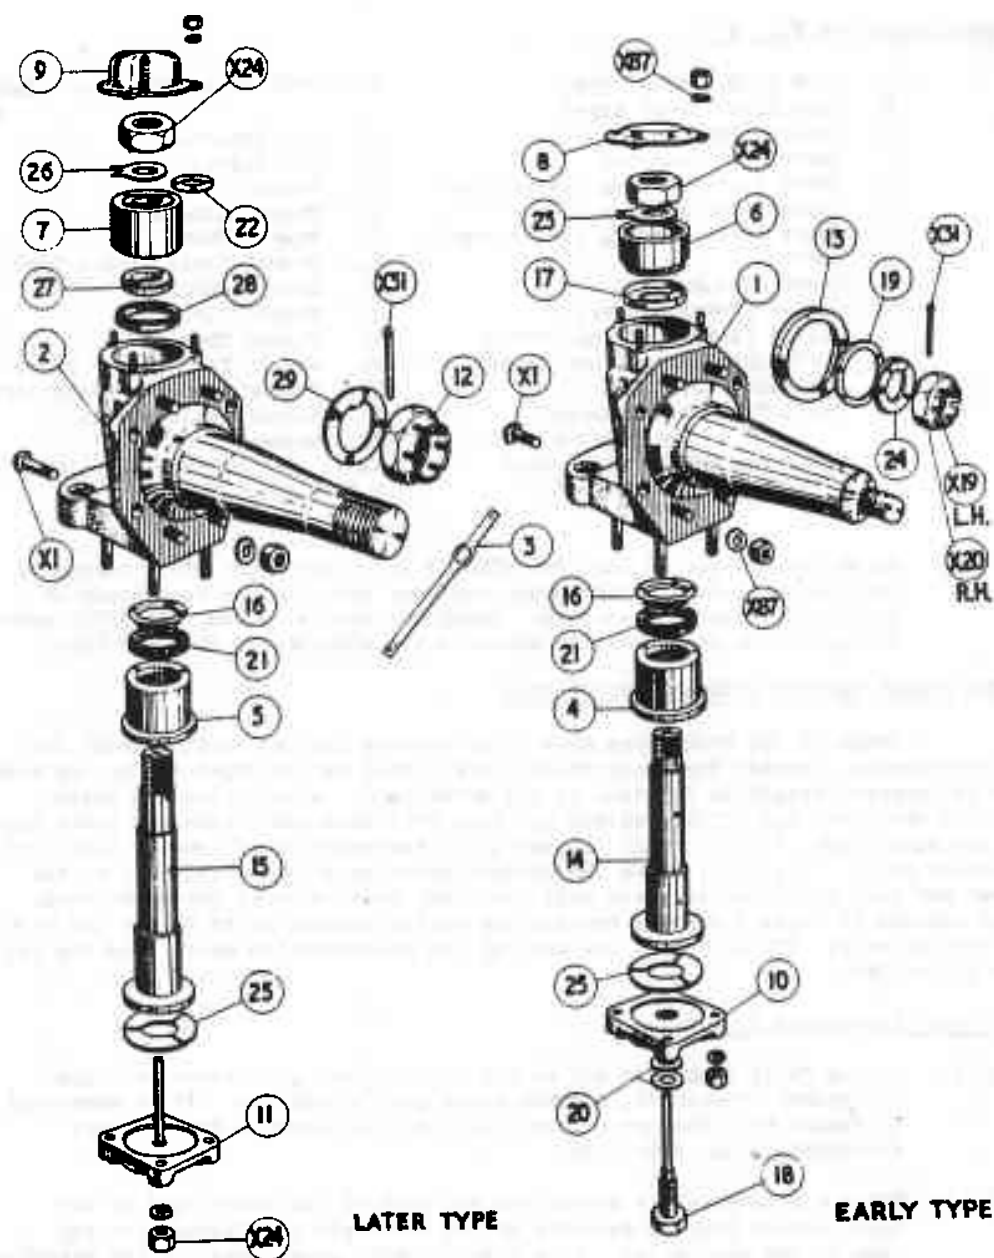

FIG. H13. PIVOT PIN AND BEARINGS
- (iii) Remove top cover (8 and 9, Fig. H13 and H14) and restricting pin. Remove the nut (X.24) from pivot pin, using box spanner, 1660/T1005. Remove the oil union from flange (10 and 11). Remove lower cover and thrust washer (25).
- (iv) Drive pivot pin downwards with an aluminium drift. The bottom end of pivot pin is threaded internally (R.H.) 11/16" 16 T.P.I. for extraction purposes. Remove 3/4 needle rollers from outer race (4) of the lower bearing, and remove stub axle from yoke. Remove oil trough (17) from stub axle (old type), felt washer and packing ring sub-assembly (21 and 16), from the yoke. Thoroughly clean all parts.
Nomenclature for Fig. H13: